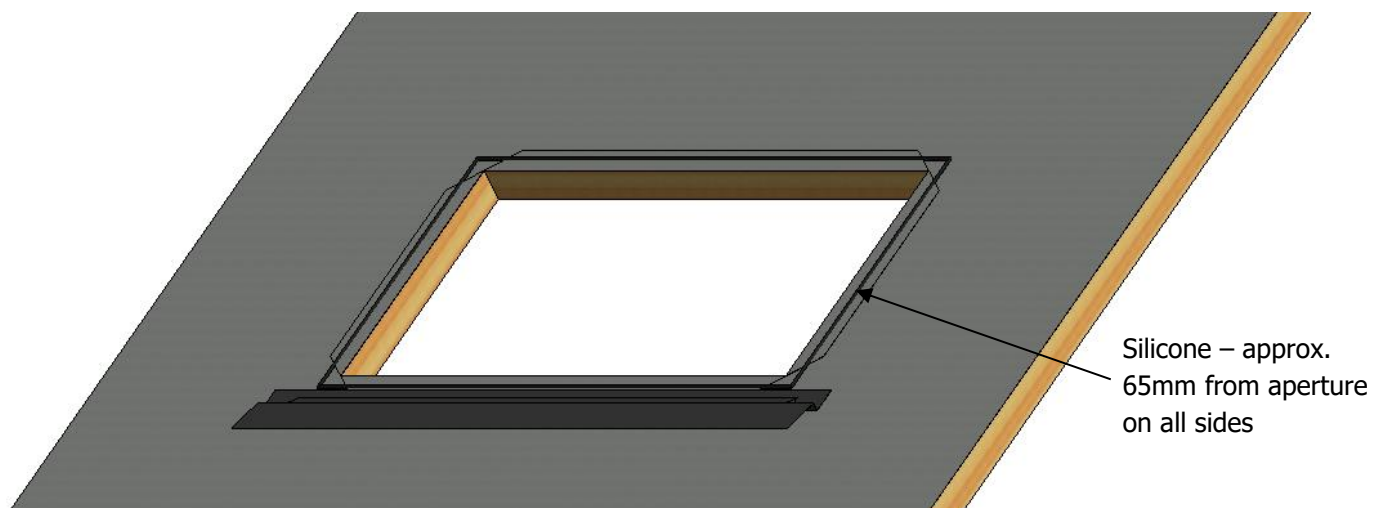

Fig. 4b – Continuous silicone bead on top of underlay
- Lay a large, continuous bead of silicone (supplied) onto the underlay approximately 65mm from the internal aperture (fig. 4b)